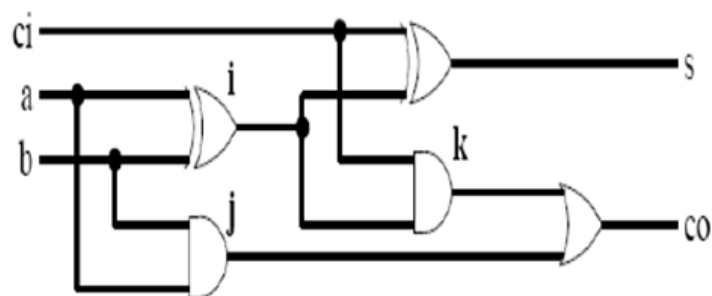

FIG 2A
- 2A. Why is it necessary to check the critical path of a design? Find the critical path (and highlight it) in the half adder circuit as shown in FIG. 2A and check through path sensitization whether it is a true or false path, if it's true find the test vectors. Assume no wire delay and the gate delays are given in table of FIG. 2A.